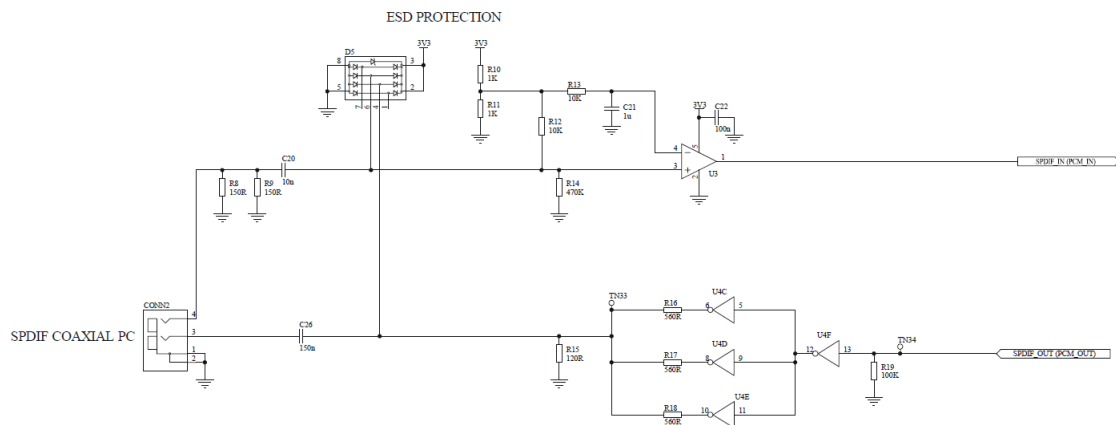

Figure 8.4.1 Example Circuit for SPDIF Interface (Co-Axial)
- A 75Ω coaxial cable with an RCA connector (Figure 8.4.1)